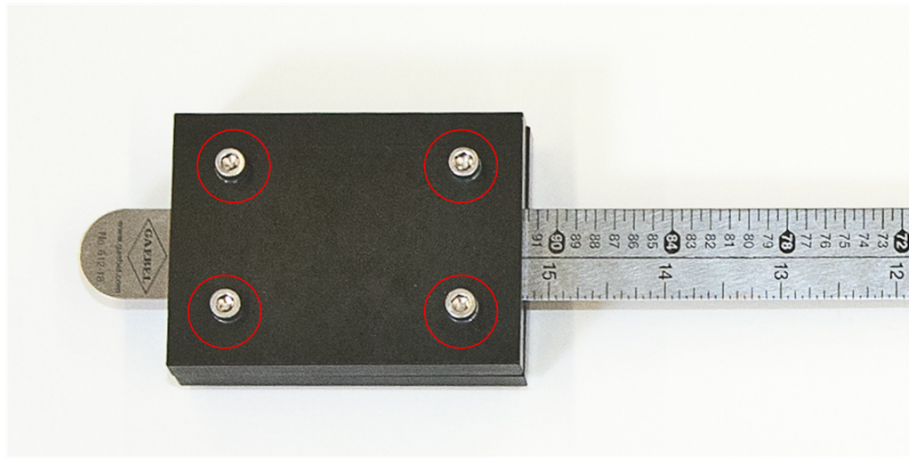

Figure 4.4: Removing the weight
1. Loosen the four screws shown in Figure 4.4 and remove the weight using the Allen key #8-32 provided with the system.